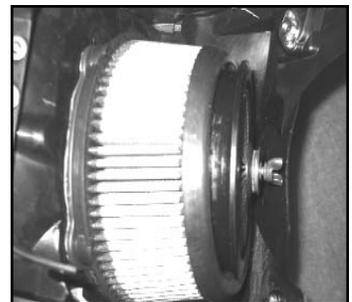

Fig. 6
8. With the wingbolt installed into the XStream Top®, place the XStream Top® onto the air filter. **Note:** Do not push the XStream Top® completely onto the air filter. (Fig. 6) This will assist in installing wingbolt into threads.